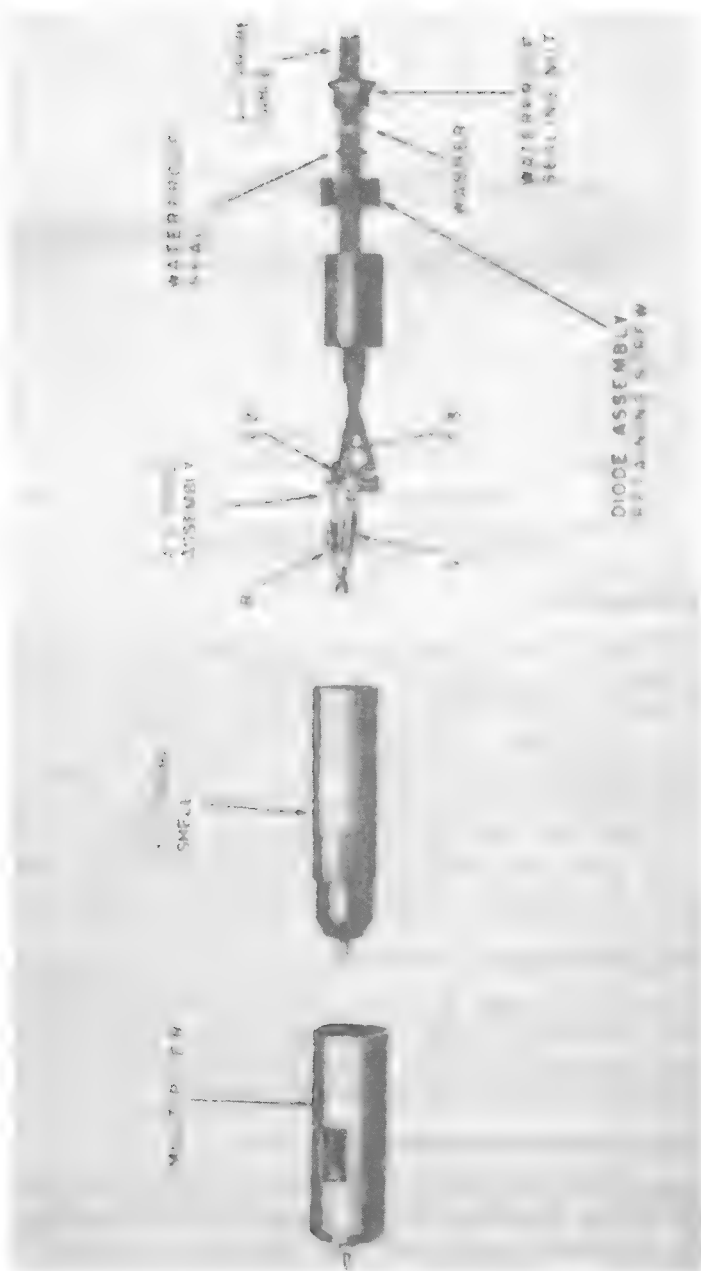

Figure 21. Exploded view of a-c probe.
(1) With one hand, grasp the diode assembly retaining screw to prevent it from turning; with the other hand, loosen the waterproof sealing nut.
(2) Loosen the diode assembly retaining screw. The a-c probe shell will separate from the rest of the assembly.
(3) Slip the waterproof sealing nut, washer, waterproof seal, diode assembly retaining screw, and insulator over the a-c probe cable (fig. 21) to permit access to the tube base.
(4) Carefully unsolder the cable from the tube base. Tag the cable leads to permit identification when resoldering.
(5) Remove a spare diode assembly from the rear of the multimeter and carefully solder the leads from the cable to the spare diode assembly.
(6) Replace the a-c probe shell and tighten the diode assembly retaining screw.
(7) Tighten the waterproof sealing nut.
(1) Repeat the steps in subparagraph b(1) through (4) above at the a-c probe end of the cable. Put the waterproof sealing nut, washer, waterproof seal, diode assembly retaining screw, and insulator on the new cable in the order shown in figure 21.
(2) Repeat the steps in subparagraph b(6) and (7) above.
(3) Remove the sealing nut, washer, and waterproof seal at the multimeter end of the cable. An open-end wrench may be used on the sealing nut.